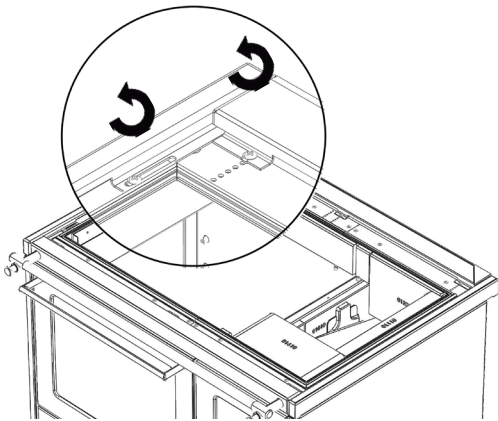

Figure 6
- ⇒ Remove cooking plate(s) and slacken stove frame mounting screws (12 pieces) (Figure 6)